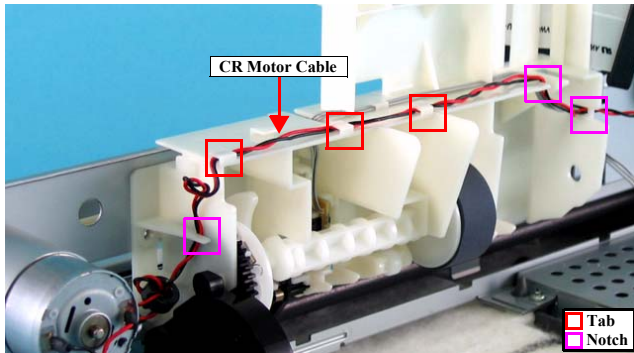

Figure 4-46. Removing Holder Shaft Unit (2)
When installing the CR Motor Cable to the Holder Shaft Unit, be sure to route the cable as shown in Figure 4-46.
3. When installing the CR Motor Cable to the Holder Shaft Unit, route the cable as shown in Figure 4-46.